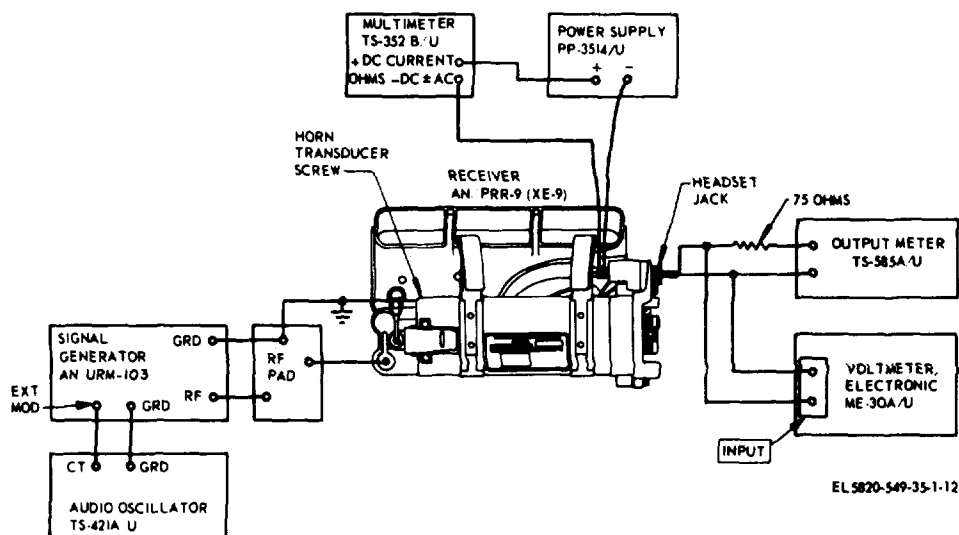

Figure 4-3. AN/PRR-9 (XE-9) squelch sensitivity test.
- a. Connect the test equipment as shown in figure 4-3.